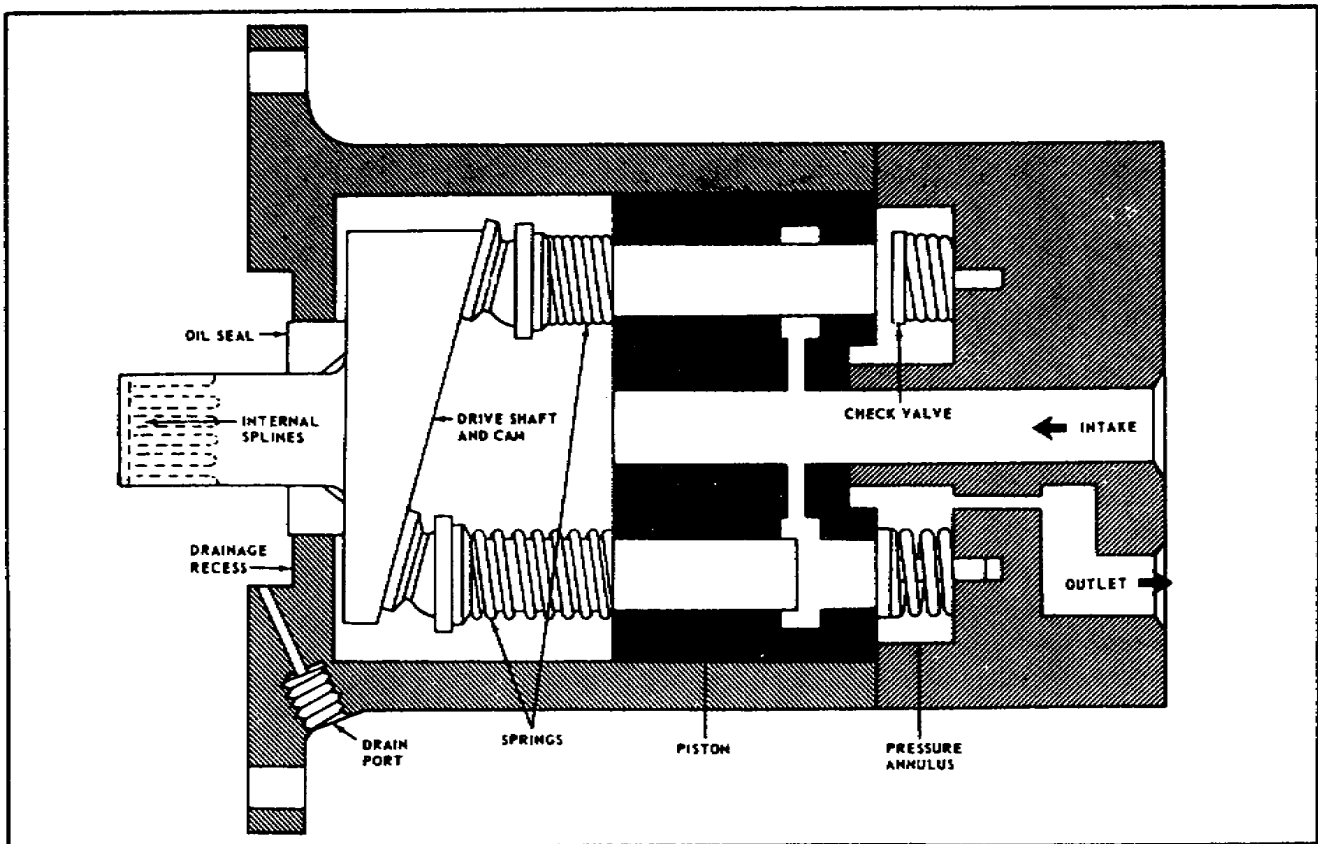

Figure 1-7. Typical Rotating-Cam Piston Pump.
- Rotating-cam pump. The rotating-cam pump is the one most commonly used in Army aviation. As the cam turns in a rotating-cam pump (Figure 1-7), its high and low points pass alternately and in turn under each